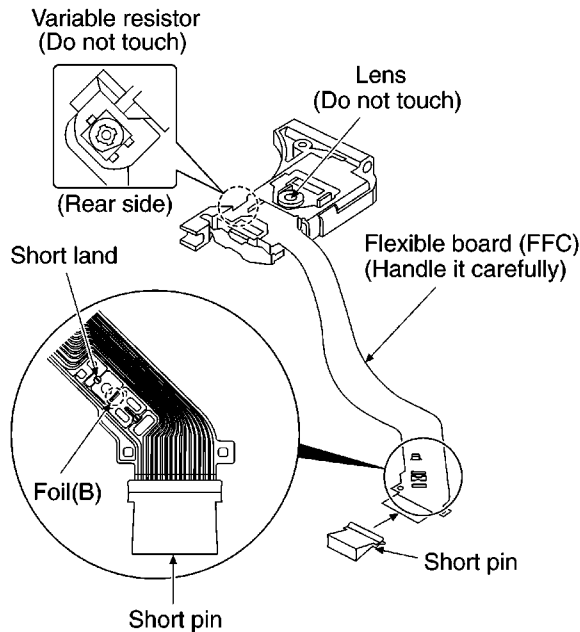

Fig. 4-1.
(Refer to Fig. 4-1.)
4. Do not turn the variable resistor (laser power adjustment). It has already been adjusted. (Refer to Fig. 4-1.)
The traverse deck short-circuits the foil (B) to protect the laser diode against electrostatic breakdown. Be sure to cut the foil (B) before making connection. Take care not to make contact with cutting point each other. (Refer to Fig. 4-1.)